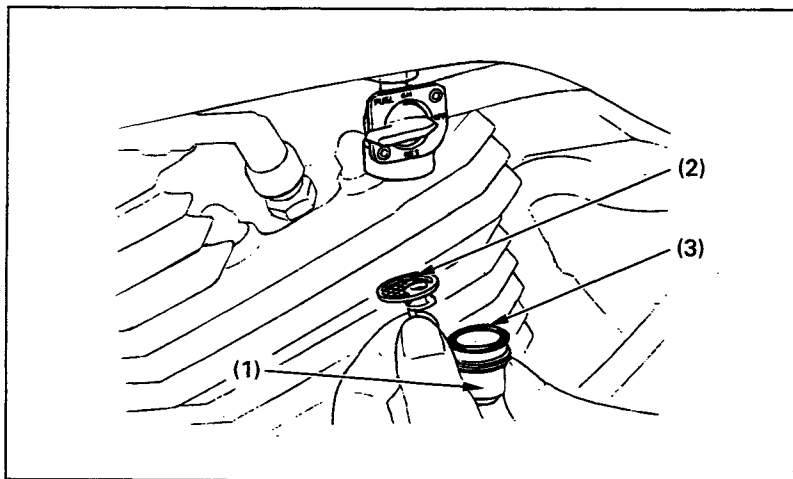

Fig. 4-3      (1) Fuel strainer cup      (3) O-ring
The fuel strainer (Fig. 4-3) is in the fuel valve. The strainer has a fine mesh screen (2) which prevents dirt from entering the carburetor passages. Dirt which accumulates in the screen must be removed periodically, or the fuel flow will eventually be restricted.